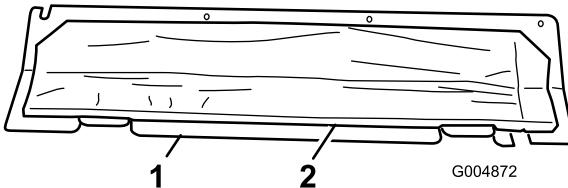

Figure 8
3. Clean the engine side of the front cover and install the self-adhesive heat shield material (Figure 8). The heat shield must be positioned so that the cover can be reinstalled without clamping the heat shield material between the access cover and the frame. Do not install the panel at this time.